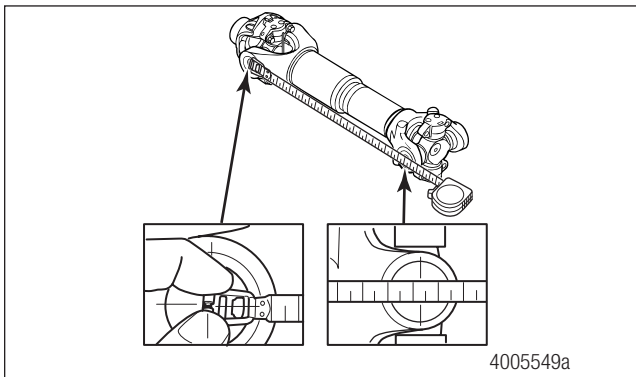

Figure 14.27
2. Measure the length of the driveline from the center of the transmission universal joint to the center of the carrier universal joint. Figure 14.27.
1. Measure the length of the driveline from the center of the transmission universal joint to the center of the carrier universal joint. Figure 14.27.